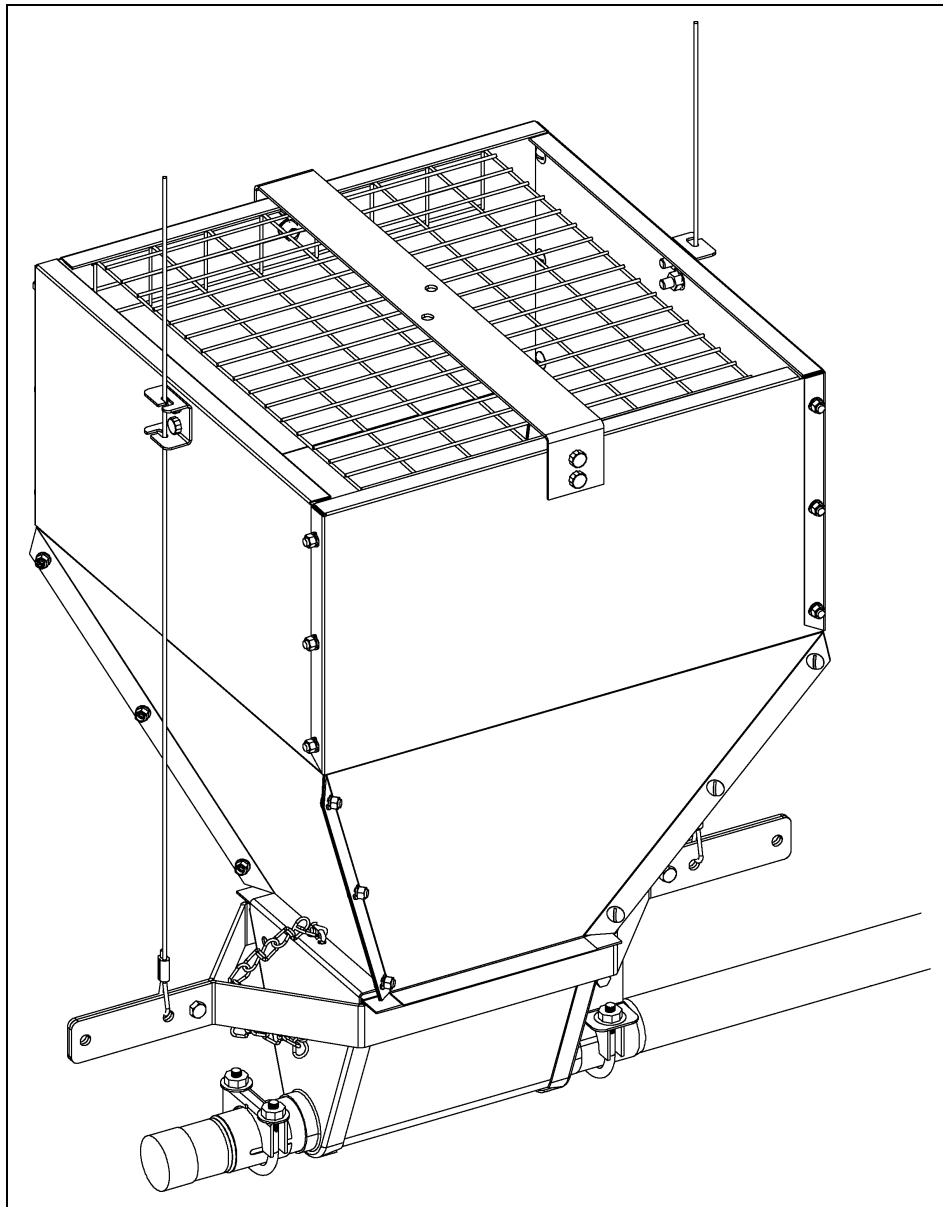

Figure 7DA
- c. Two (2) to hang each feed hopper (19" (48.26 cm) apart for 120# and 200# hoppers, 25" (63.50 cm) for 300# and 400# hoppers).
- d. Bolt two (2) halves of the hopper suspension brackets using two (2) 5/16"-18 bolts and nuts. The drop cables will need to be spaced 19" apart for 120# and 200# hoppers or 25" for 300# and 400# hoppers. Suspend the boot using the two (2) drops on each side of the hopper as shown in *Figure 7DA*. Bolt the cable guides to two (2) sides of the hopper using four (4) 5/16"-18 bolts and nuts. Run the cable through the cable guides interlocking them in the cable guide slots.